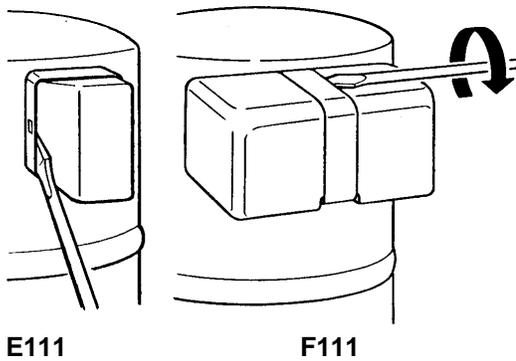

Figure 69. Compressor Cover Removal
- For the E111, remove the compressor terminal cover by inserting a standard screwdriver between the terminal cover and the compressor cover frame, then gently pry off from the right side, then the left. For the F111 insert a screwdriver between the retainer clip and cover, then twist. (Figure 69)